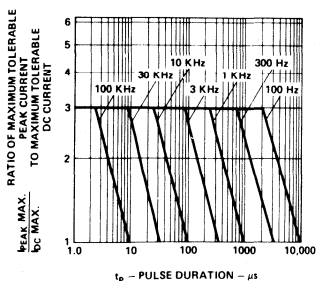

Figure 5. Maximum Tolerable Peak Current vs. Pulse Duration. ( $I_{DC \text{ MAX}}$  as per MAX Ratings)
- See Figure 5 (Red/Orange), 10 (Yellow) or 15 (Green) to establish pulsed operating conditions.